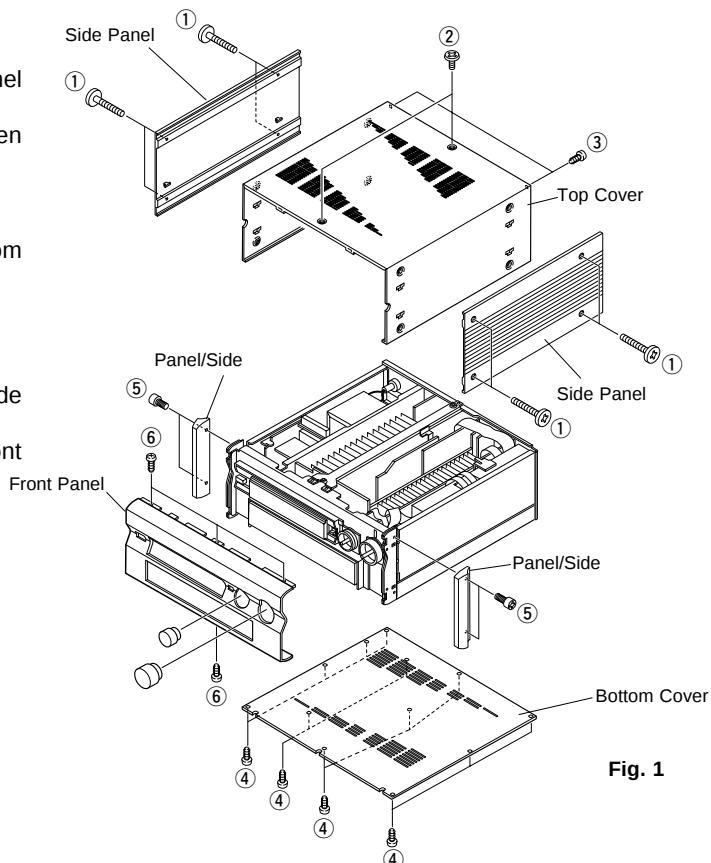

Fig. 1
- Remove 8 screws (①) and then slide the Side Panel to remove it in Fig. 1.
- Remove 2 screws (②) and 2 screws (③) and then remove the Top Cover in Fig. 1.
- Remove 12 screws (④) and then remove the Bottom Cover in Fig. 1.
- Remove 2 knobs in Fig. 1.
- Remove 4 screws (⑤) and then slide the Panel/Side forward to remove it in Fig. 1.
- Remove 4 screws (⑥) and then remove the Front Panel in Fig. 1.